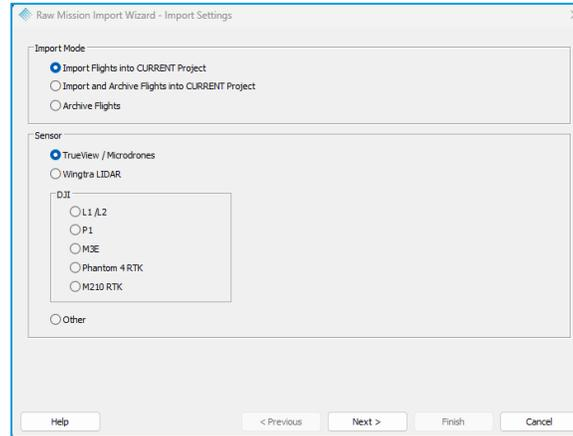

Figure 29 - First page of Import Cycle Wizard for a NEW Project
3. Select **Cycle Import**  on the **Sensor** tab (Figure 27) to open the *Raw Mission Import Wizard*. If the wizard is run outside of an existing LP360 project, then it will create a new project. If you run the wizard from within an existing project, the occurrences of "NEW" in Figure 29 are replaced with "CURRENT".
Selecting **Cycle Import**  on the Sensor tab brings up the first page of the Raw Mission Import wizard (Figure 29).
Select the “**Import Flights into NEW/CURRENT Project**” radio button and the desired **Sensor** type from the Raw Mission Import Wizard (Figure 29). Then, press the **Next >** button at the bottom of the dialog to take you to the specific Input Folder Page, as described below.